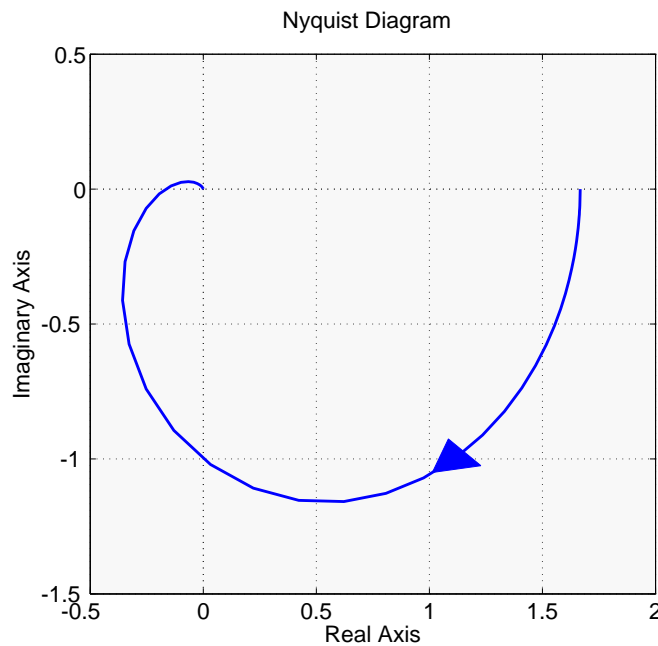

Figure 5 Nyquist plot of $G(s)$ in Problem 7.
7. The Nyquist plot of a linear system $G(s)$ is shown in Figure 5. You may assume that all poles of the system are located in the left half-plane.